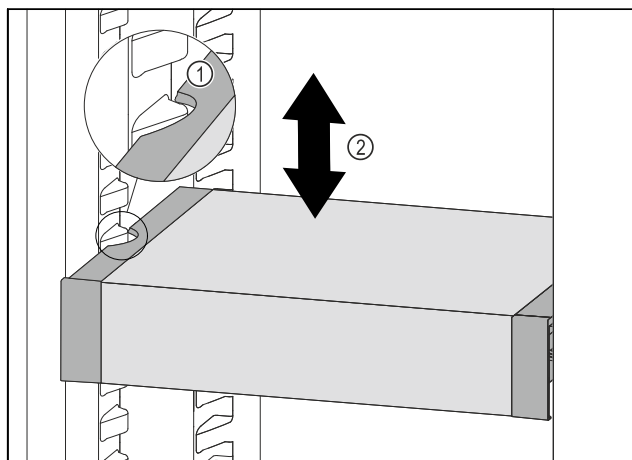

Fig. 165
- Pull VarioSafe forwards until the recesses in the side of the VarioSafe are at the level of the support rib in the refrigerator compartment. Fig. 165 (1)
- Move VarioSafe up or down in the refrigerator compartment until the desired height is reached. Fig. 165 (2)